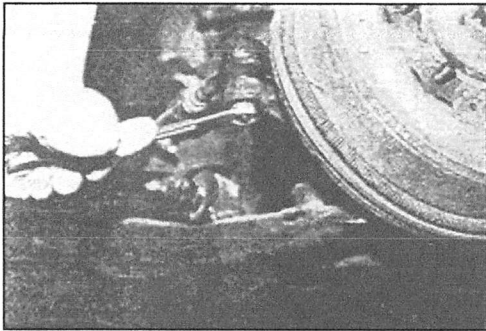
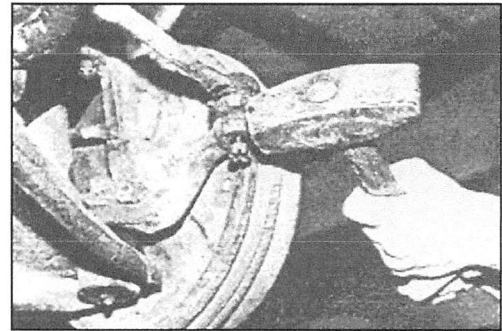

Fig. 3a
Fig. 3b
Step 3: Remove the outer tie rod end cotter pin and loosen the castle nut (Fig. 3a). The tie rod ends and ball joints can be removed using several methods. A pickle fork can be used, but will damage the grease boots. A ball joint puller can be purchased or rented, or, you can strike the steering arm or spindle assembly with a heavy hammer (Fig. 3b). **Caution:** Always make sure to use protective eyewear.